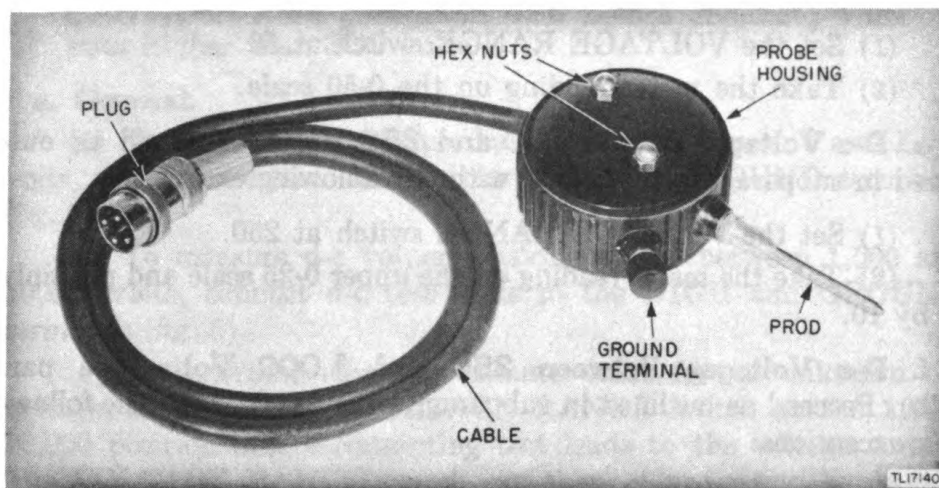

Figure 7. Probe, outside view.
- (1) Insert the four-prong plug on the probe cable into the A.C. PROBE socket which is located on the front panel of the vtvm. Lock the plug in place by tightening the ring nut.
- (2) Connect the lug end of the 8-inch test lead to the ground terminal on the a-c probe housing (fig. 7).
- (3) Connect the lug end of the d-c test lead with the alligator clip to the GROUND terminal on the front panel of the cabinet.
- (4) Connect the lug end of the other d-c test lead to the LOW terminal on the front panel of the cabinet.
(5) The instrument is now ready to be placed in operation. See sections III, IV and V for initial adjustments, preoperational and operational procedures.